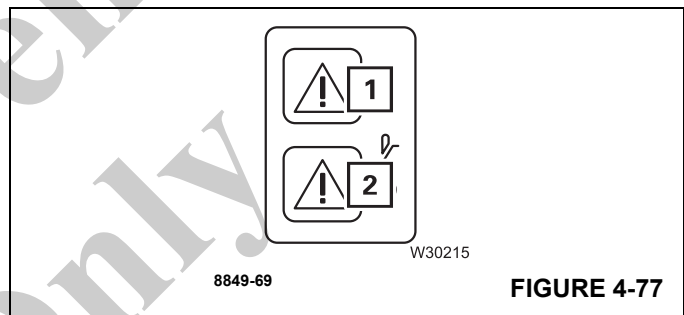

FIGURE 4-77
The crane movements are reactivated when you have returned to a normal operating state below the maximum permissible load capacity – lamps (1), (Figure 4-77) and (2) go out.